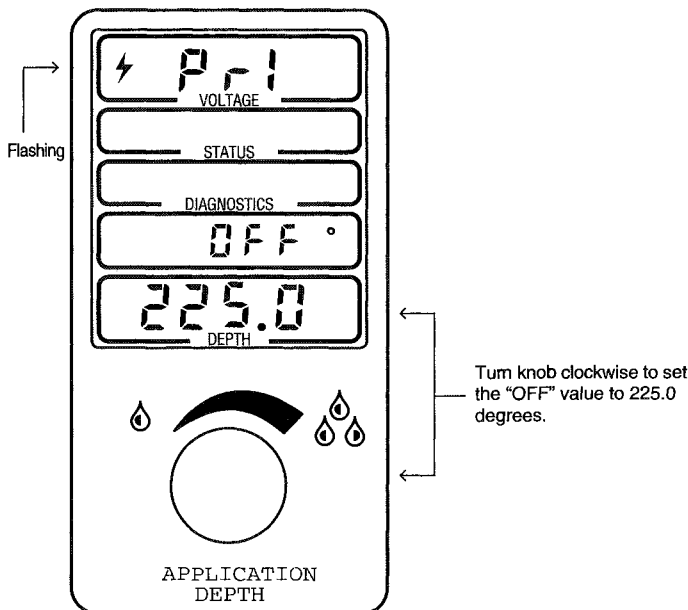

Figure 2.44
5. Turn the knob clockwise to set the “OFF” angle to 225 degrees as illustrated in figure 2.44.